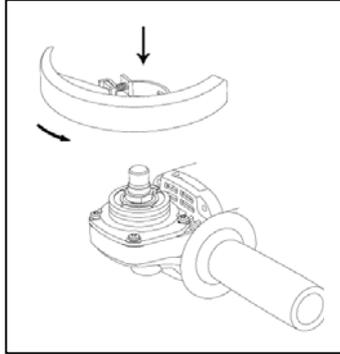

Figure 1
- 1) The auxiliary handle (1) can be fitted to the left or the right of the tool. Select the position which is the most safe and comfortable for the use of the tool.
- 2) Fitting the grinding guard:(See Figure 1 and 2)